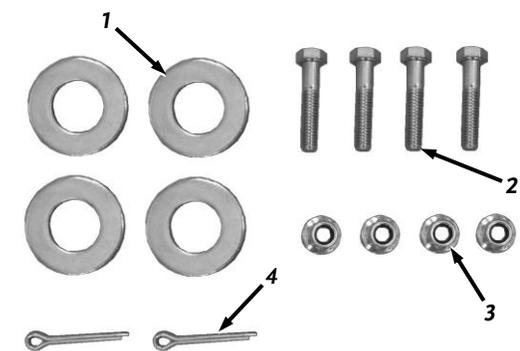

Figure 8
**Wheel Hardware (Figure 8):\***
(Use Wheel Hardware Bag Set, see Figure 8)